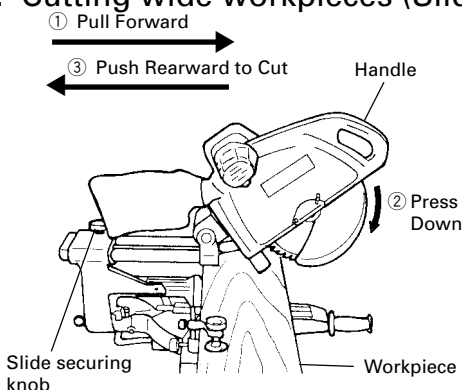

Fig. 21
Then press down on the handle and slide the saw blade back to cut the workpiece as indicated in Fig. 21. This facilitates cutting of workpieces of up to 4-7/32" (107mm) in height and 12" (305mm) in width.
- \* For slide cutting, follow the procedures indicated above in Fig. 21. Forward slide cutting (toward the operator) is very dangerous because the saw blade could kick upward from the workpiece. Therefore, always slide the handle away from the operator.